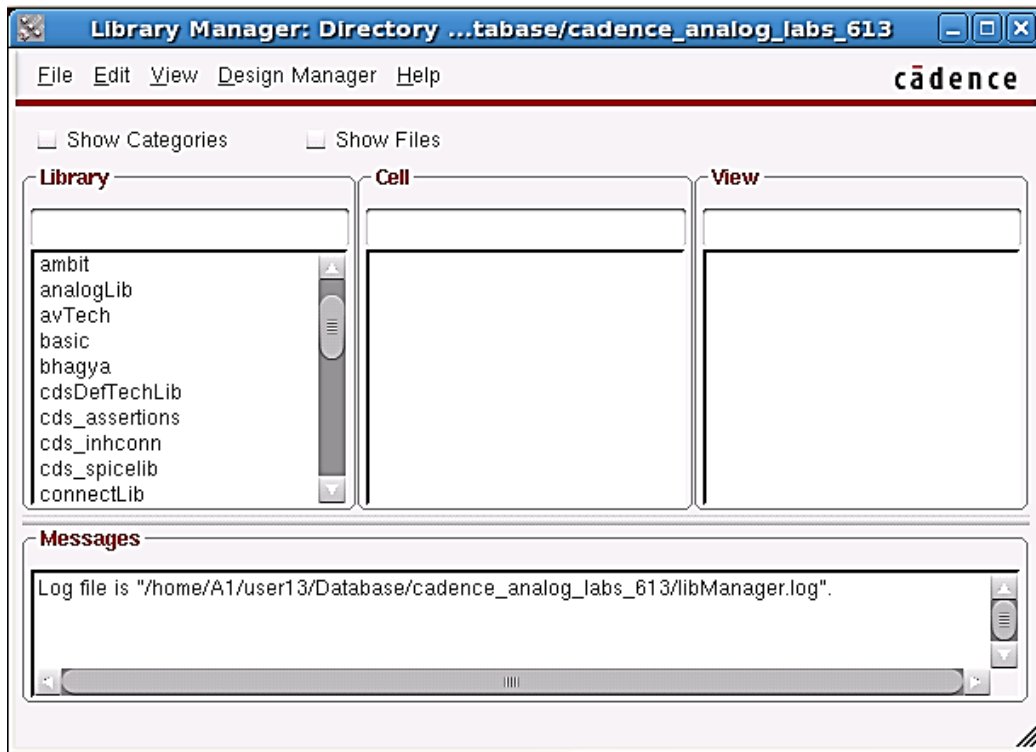

Figure 1.2: Library Manager
- to load the Library Manager (Fig.1.2). The Library Manager stores all designs in a hierarchical manner. A library is a collection of cells. For example, if you had a digital circuits library named Digital, it will have several cells included in it. These cells will be **inverters**, **nand gates**, **nor gates**, **multiplexers**, etc. Each cell has different views. These views will in general be things such as **symbols**, **schematics**, or **layouts**.